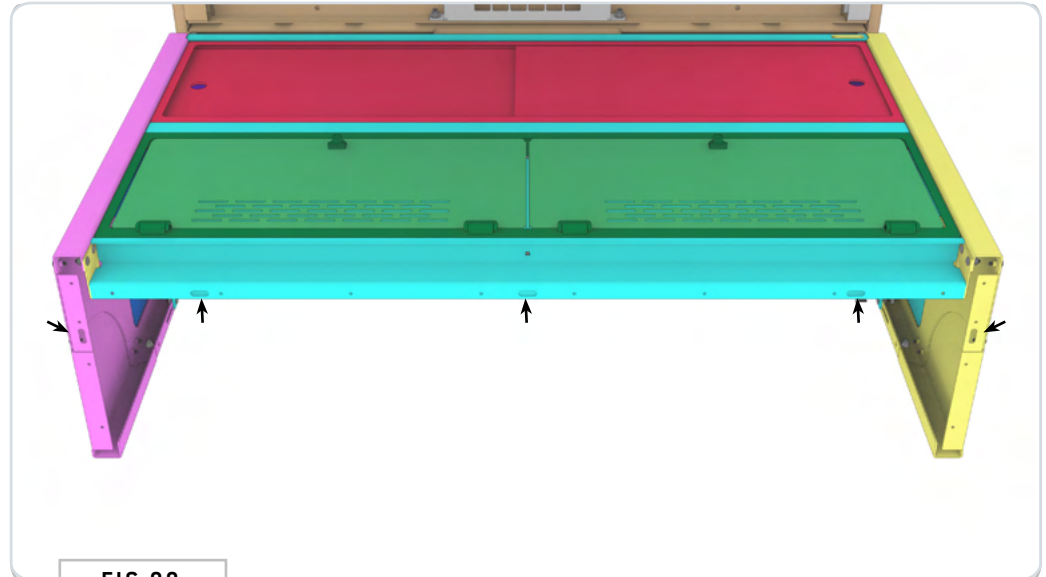
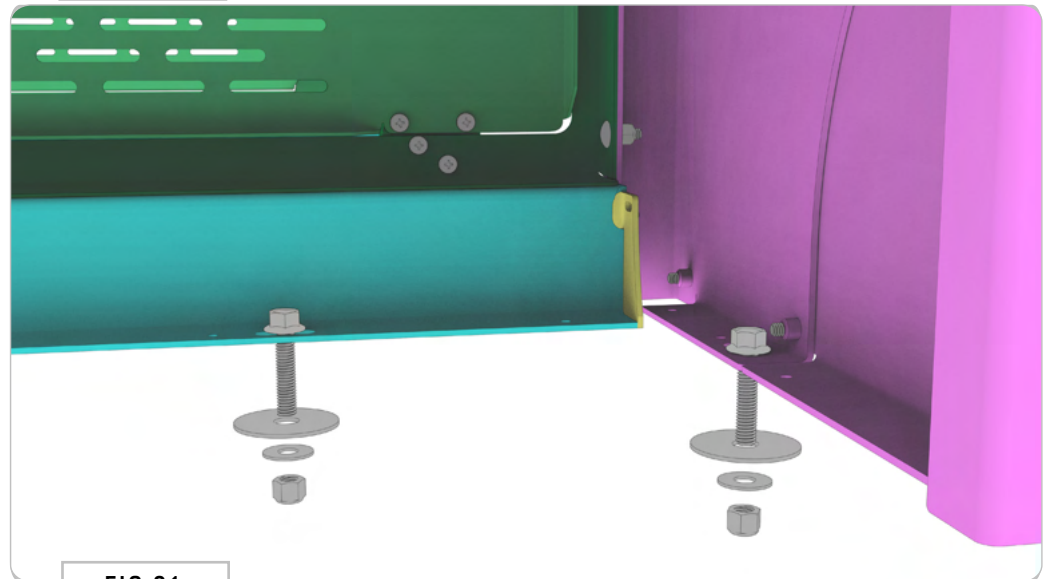

FIG 90
FIG 91
7.2 Attach Hinge and Table Side Cabinets to Van Floor (optional): See available mounting slots in the bottom of the **Left and Right Side Cabinet Ends** and **Toe Kick** in FIG 90. If desired, mark your preferred locations for mounting to the floor and drill out using a **5/16" Drill Bit**. Mount using the supplied **3/8-16 x 1.75 Flanged Hex Head Screw, Mounting Washers, 3/8" Oversized Flat Washers** and **Nylon Locknuts** (FIG 91).